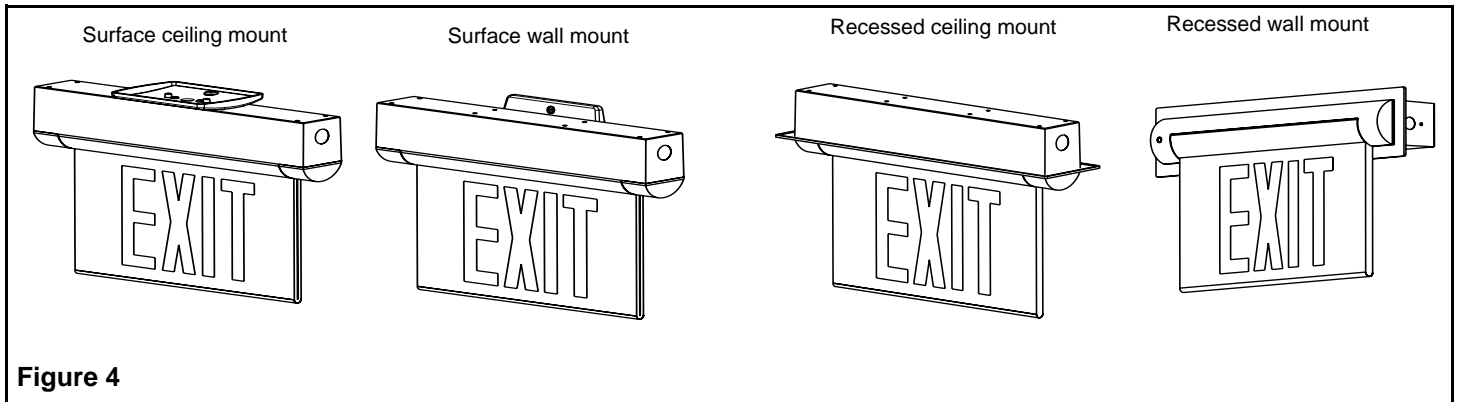

Figure 4
1. The trim plate module comes assembled for surface mount or recessed ceiling mount installation (Figure 4). If surface or recessed ceiling mount, continue with step 3.